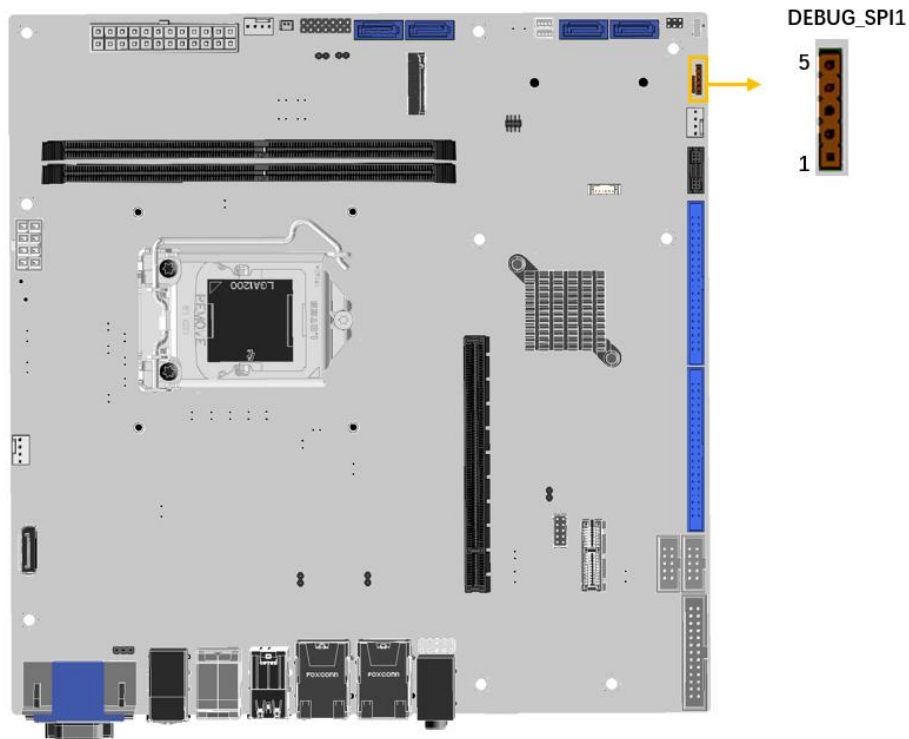

Figure 3-27: EC Debug Connector Location
- CN Location:** See Figure 3-27